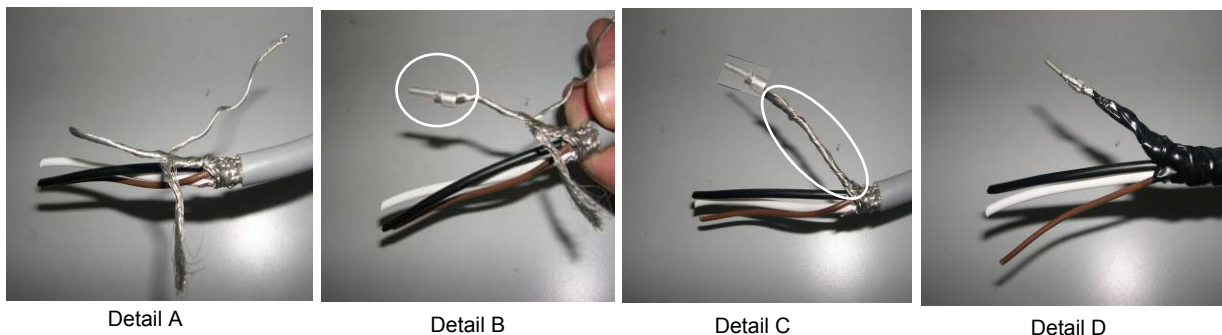

Figure 22 Connection for CAN BUS cable shield
3. Separate part of cable shield (as sufficient to fill in the available tip); plait it and apply the tip to its end. (Figure 22 details A and B).
4. Wind previously-separated shield around the shield where tip has been applied; finally, apply isolating tape to shield section between cable and tip (Figure 22 details C and D).